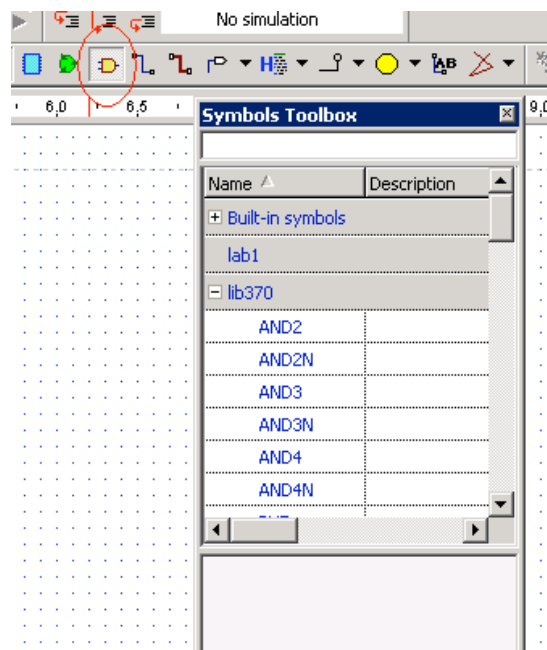

Figure 17
5. Open the Symbols Toolbox by clicking the Symbols Toolbox icon in the toolbar (Figure 17).